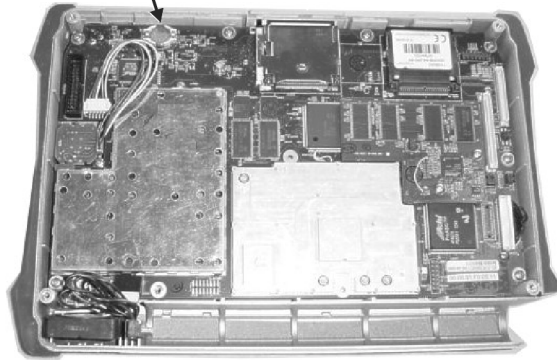

Figure 14. RTC Lithium Battery on the Main PCB
2. Carefully remove the RTV from the battery (Figure 14).